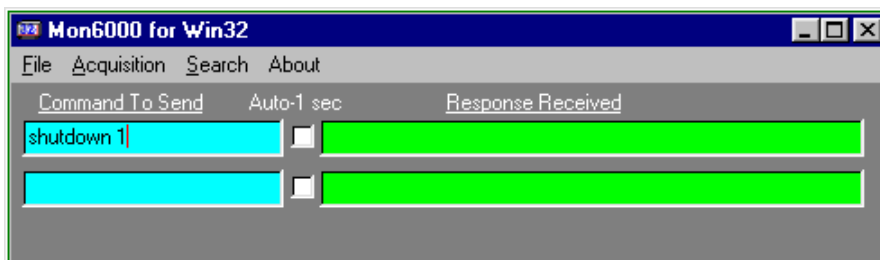

Figure 6. Switching low-temperature control modes using the Mon6000 dialog
4. Use the shutdown command (**shutdown 1**) to shut down the PPMS and activate pot-fill mode (see Figure 6).